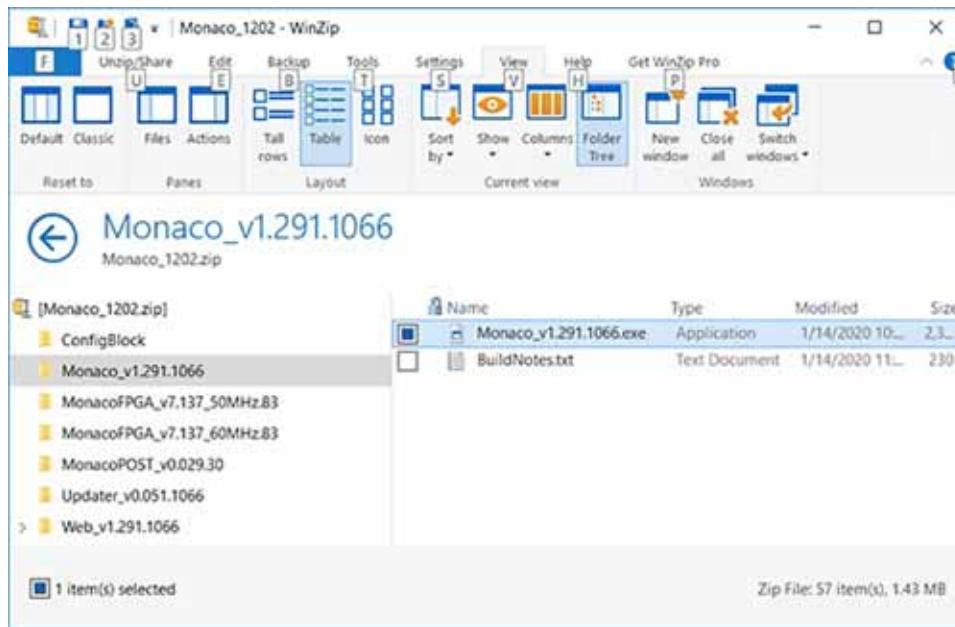

Figure 3.2-22. extract Firmware from Zip File
2. Rename it to Monaco.exe. (eliminate the version number). See Figure 3.2-22.